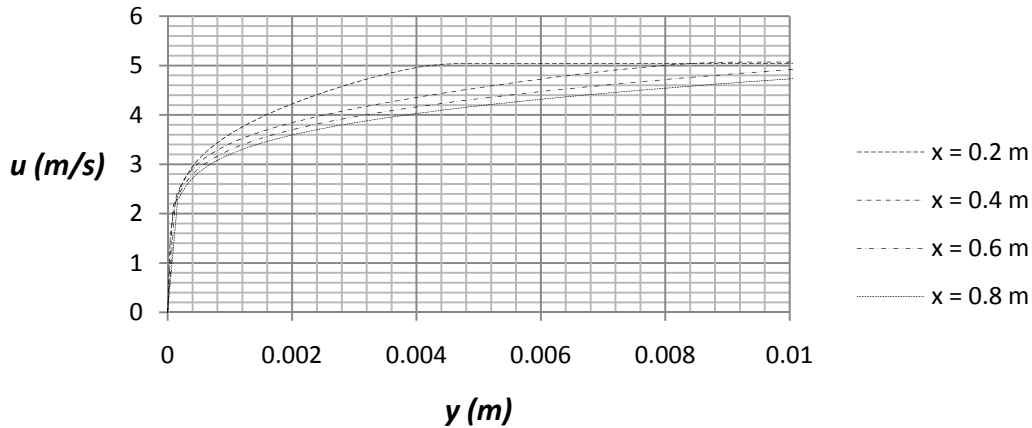

Figure 2.30a) Flow Simulation comparison between turbulent boundary layers at $Re_x = 10^6 - 4.1 \cdot 10^6$
32. Place the file “xy-plot figure 2.30a)” into the **Local Disk (C:)/Program Files /SolidWorks Corp/SolidWorks Flow Simulation/lang/english/template/XY-Plots** folder to make it available in the **Template** list. Repeat step 24 and choose the sketch **x = 0.2, 0.4, 0.6, 0.8 m** and check the box for **X-Component of Velocity**. Rename the xy-plot to **Turbulent Velocity Boundary Layer**. An Excel file will open with a graph of the streamwise velocity component versus the wall normal coordinate, see figure 2.30a). We see that the boundary layer thickness is much higher than the corresponding laminar flow case. This is related to higher Reynolds number at the same streamwise positions as in the laminar case. The higher Reynolds numbers are due to the selection of water as the fluid instead of air that has a much higher value of kinematic viscosity than water.
As an example, the turbulent boundary layer thickness from figure 2.30a) is 4.45 mm at $x = 0.2$ m which can be compared with a value of 4.44 mm from equation (4), see table 2.5.
- 2.6 Determine the displacement thickness, momentum thickness and shape factor for the turbulent boundary layers in figure 2.30a) and determine the percent differences as compared with empirical data.